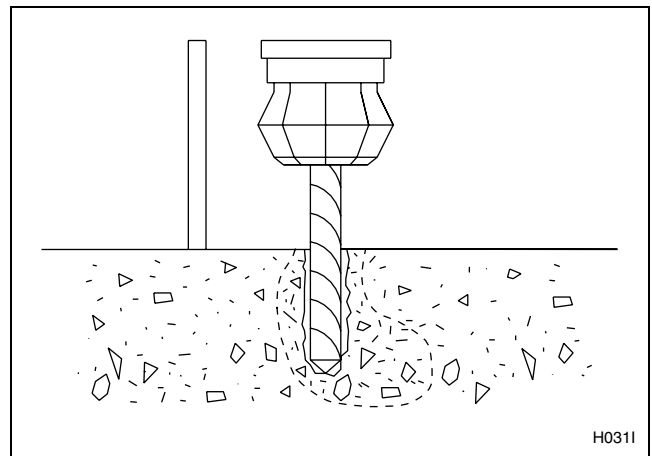

Figure 33
4. Drill and chisel out a conical hole large enough to accept the J-bolt. Refer to *Figure 33*.